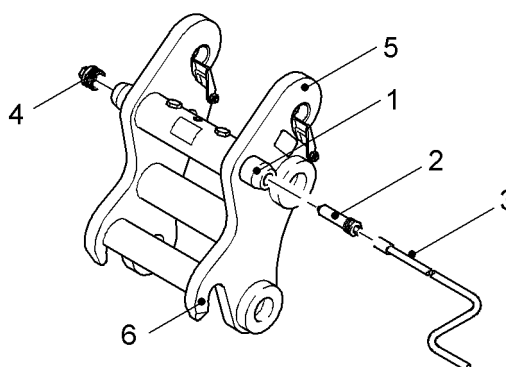

Fig. 3-104 Mechanical quick-change adapter
- ▶ Approach the quick-change adapter from the side and unscrew the locking screw **2** using the crank **3** from the locking pin **1** (see Fig. 3-104).